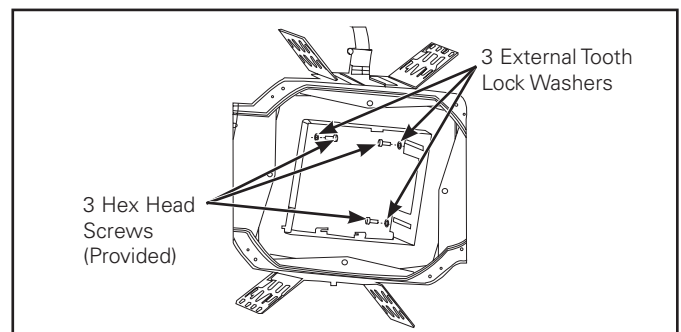

Figure 1.
Remove three (3) knurled thumb screws retaining collar to plaster frame and replace with three (3) hex head cap screws (provided), ensuring to retain external tooth lock washers (Figure 1). Allow collar to drop to lowest level.